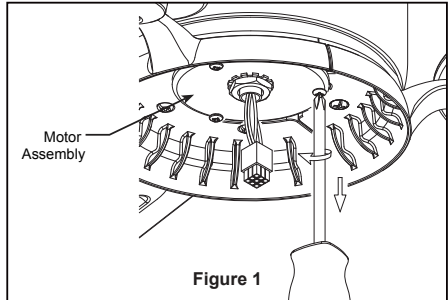

Figure 1
1. Remove one of the three screws in the support bracket at the bottom of the motor assembly. Retain the screw for later and slightly loosen the remaining two screws. (Figure 1)
1. Restore electrical power to the outlet box by turning the electricity on at the main fuse box. (Figure 1)